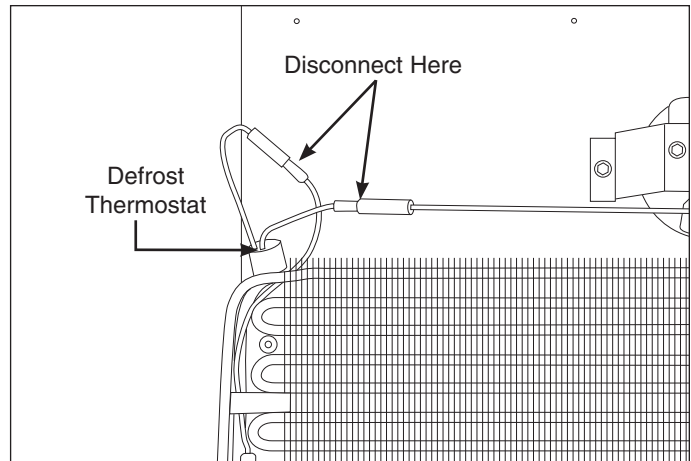

Figure 6-23. Defrost Thermostat Removal
The defrost thermostat is secured with a retaining clip to the upper left corner of the evaporator assembly. The defrost thermostat and wire harness connections may be accessed without completely removing the evaporator cover. The top of the evaporator cover may be pulled away from the rear of the cabinet interior enough to remove the defrost terminator and disconnect the wire harness connections. (See Figure 6-23)
5. Disconnect the defrost thermostat wire leads from the wire harness. (See Figure 6-23)